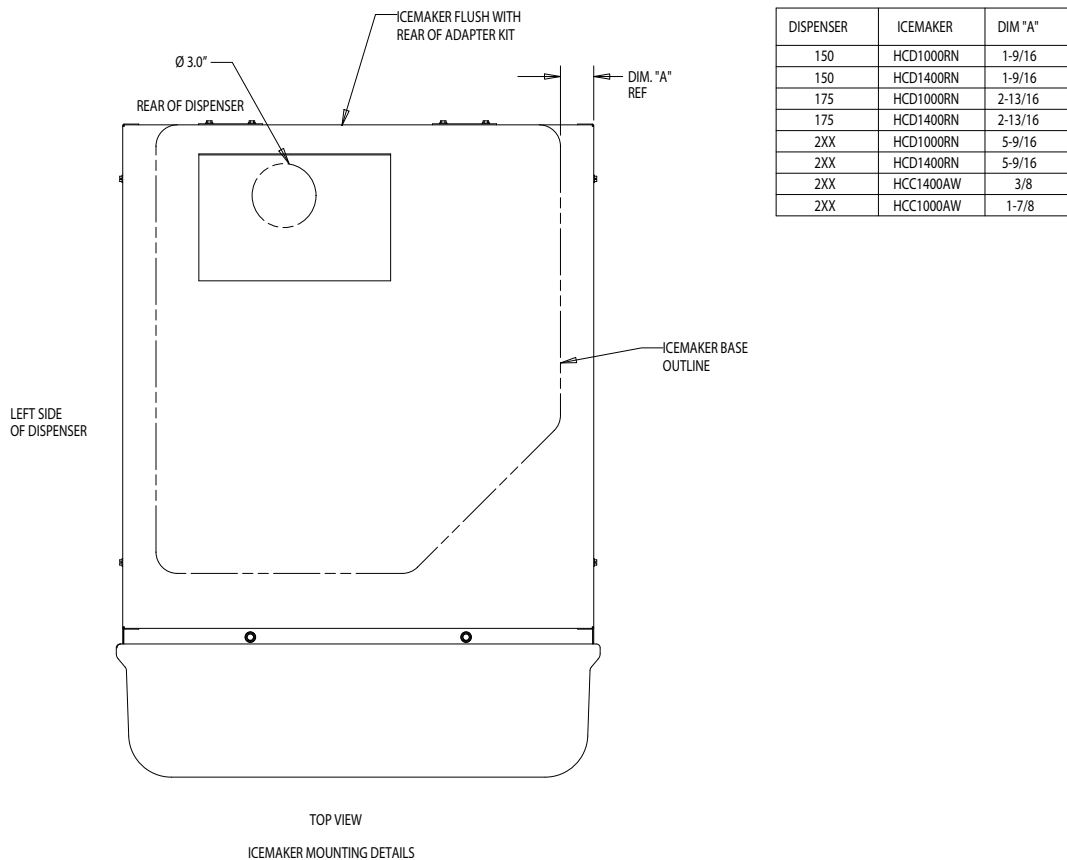
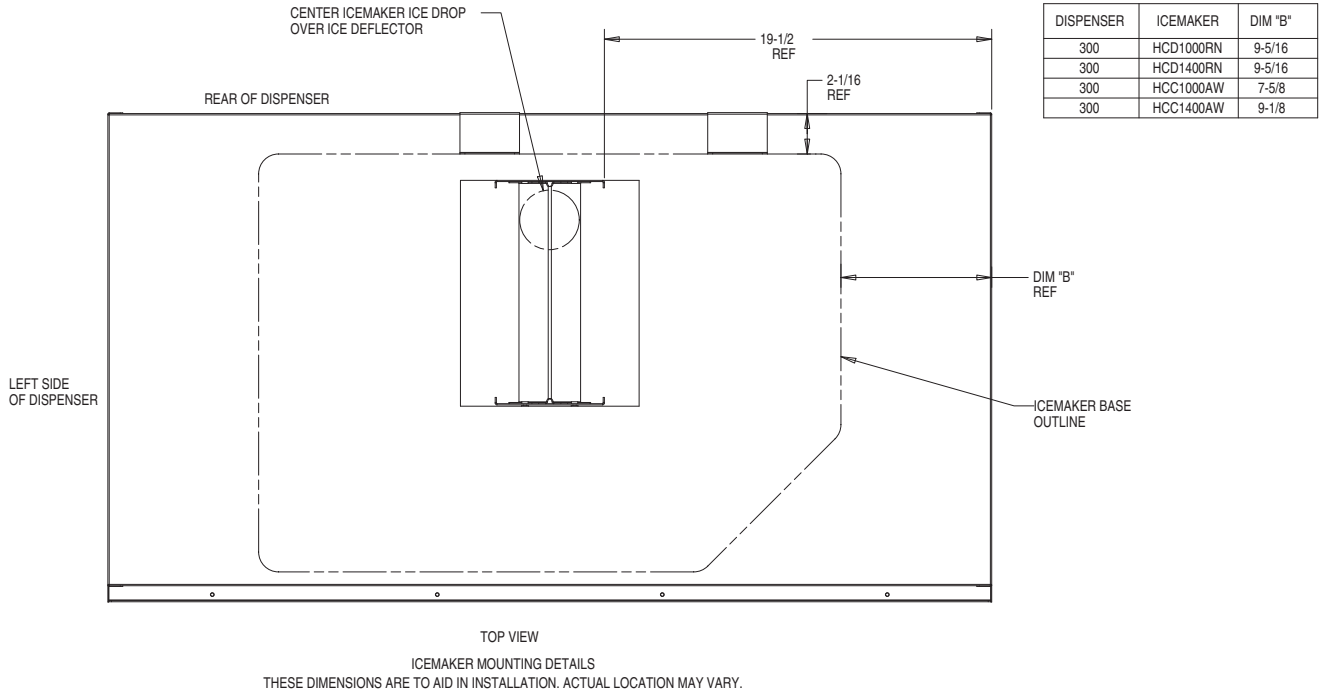

Figure 4. ED/DF 1XX and 2XX
Figure 5. ED/DF300
9. Set Icemaker onto the adapter kit. See Figure 4 and Figure 5 for location dimensions.